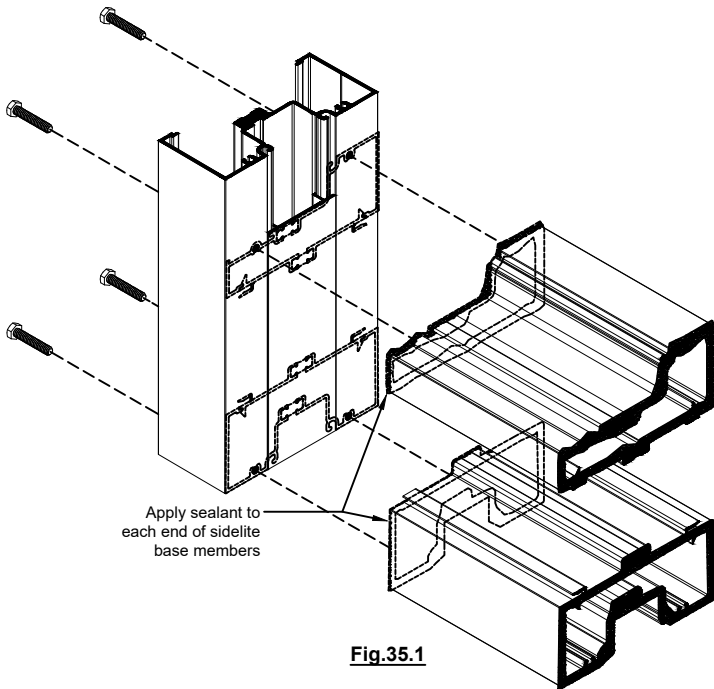
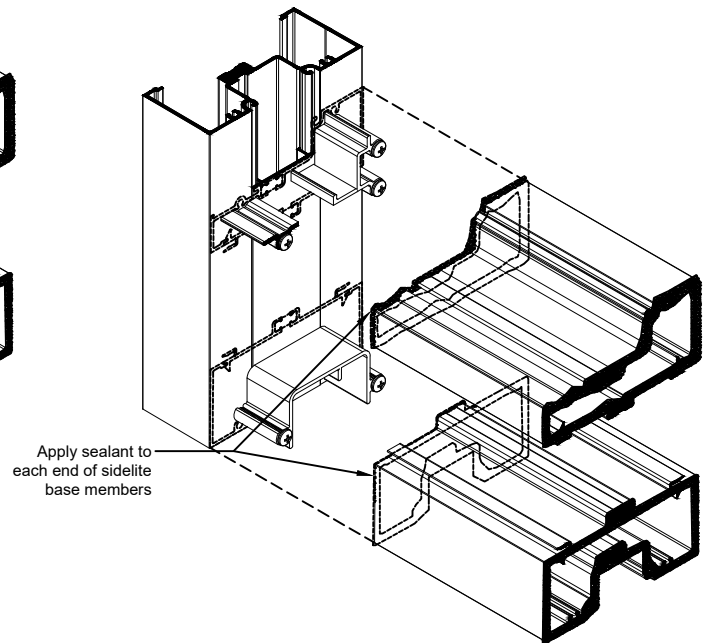

Fig.35.1
Fig.35.2
- E. Seal ends of the upper and lower members where it will contact the vertical mullion and closure pocket. **SEE Fig. 35.1 & Fig. 35.2.**